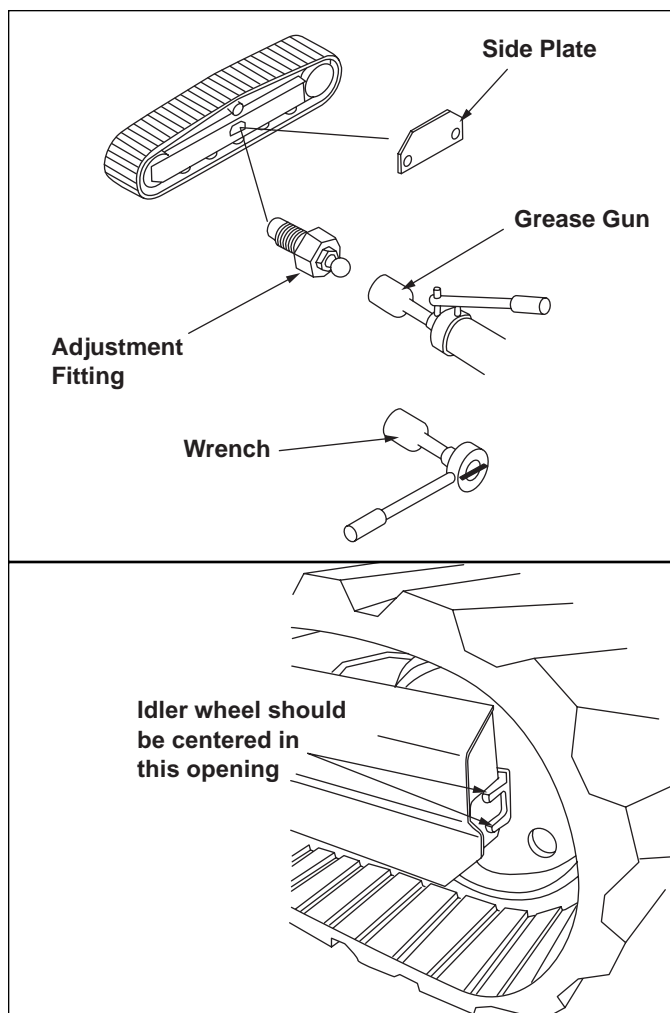

Figure 4-15. Track Adjustment
3. Remove the side plate from the left track to expose the adjustment fitting (Figure 4-15).